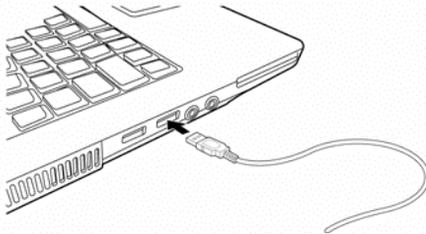

Fig. 2-21
5. Plug the thin end into the computer(Fig.2-21).